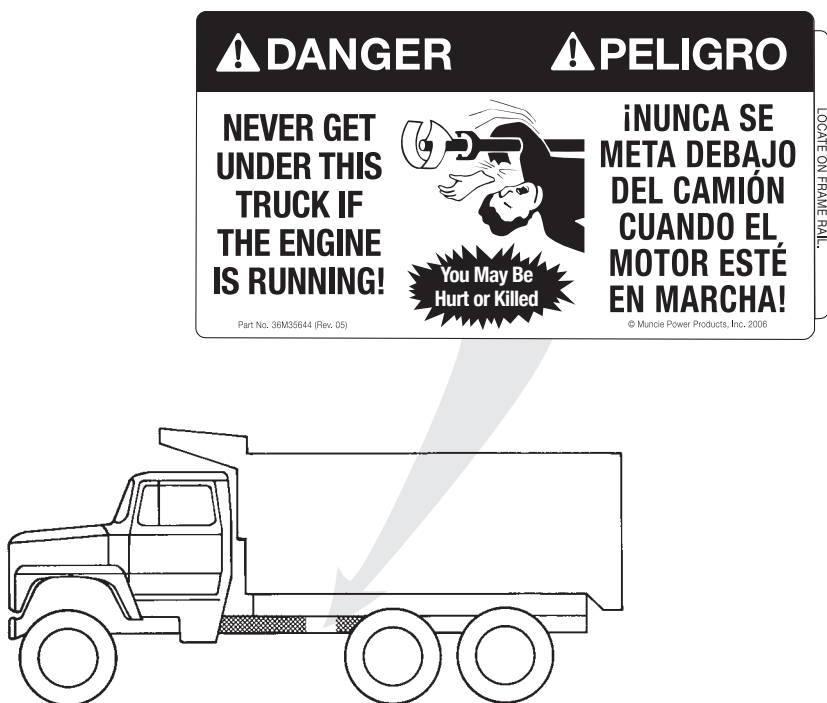

Figure 1
There are two (2) labels which measure approximately 4" x 8" which are to be placed on the outside of the vehicle frame rail, making them easy to be seen by anyone who might go under the truck or near the PTO. One label is to be placed on each side of the vehicle. *See Figure 1.*